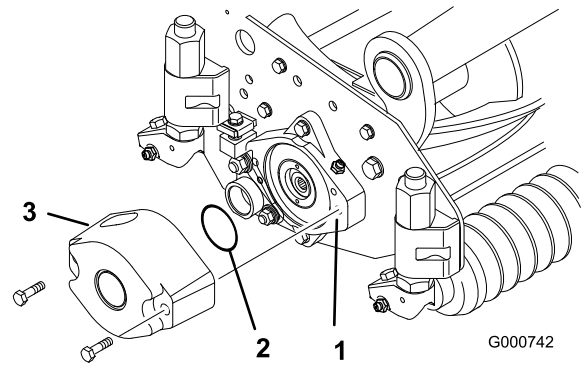
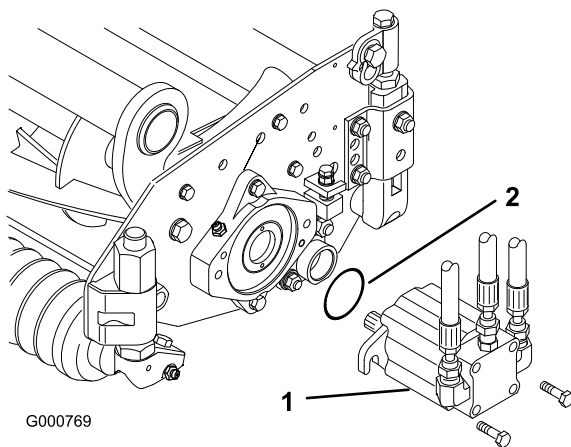

Figure 4
Figure 7
4. Install a counter weight onto appropriate end of each cutting unit with capscrews provided (Figure 4).
3. Lubricate and install a large O-ring into bearing housing groove on each end of cutting unit (Figure 4 & Figure 7).
13. Mount the motor to the drive end of the cutting unit and secure with two capscrews provided (Figure 7).